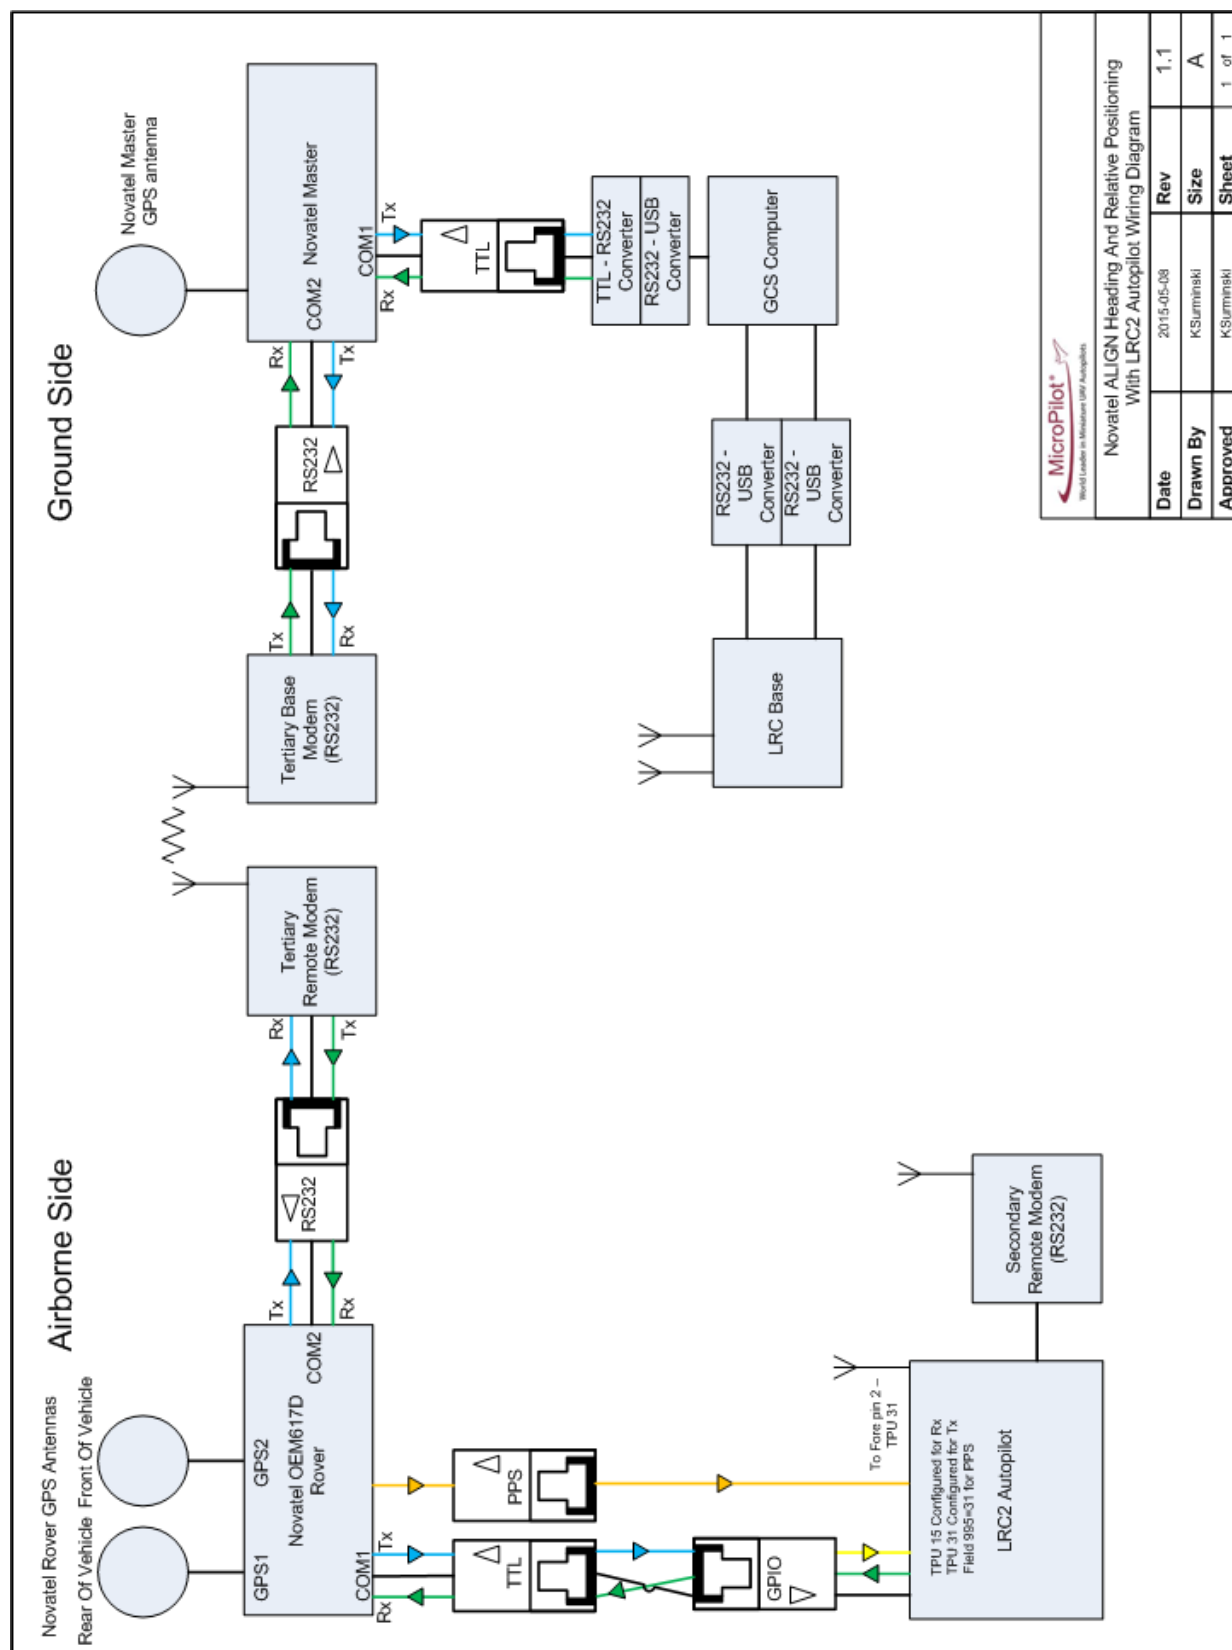

Figure 26 - NovAtel ALIGN Heading and Relative Positioning with LRC2 Autopilot Wiring Diagram
- See Figure 26 - NovAtel ALIGN Heading and Relative Positioning with LRC2 Autopilot Wiring Diagram.